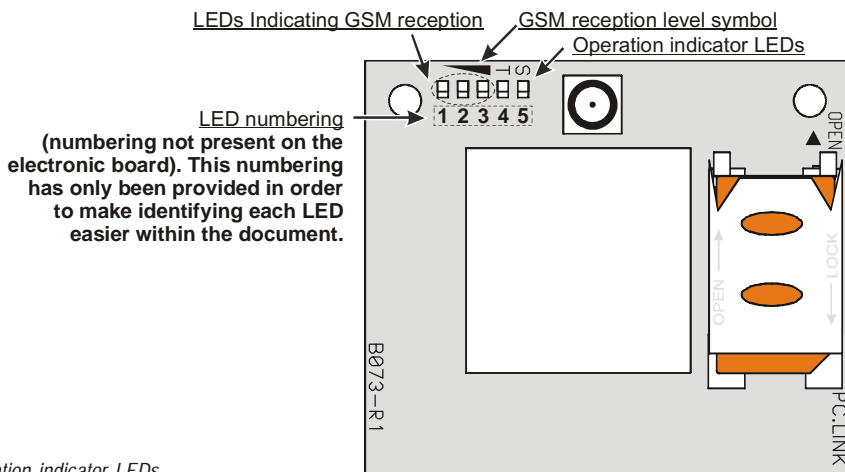

Fig. 4 - Operation indicator LEDs
There are 5 LEDs on the PCB (see Figure 4): three green LEDs (L1, L2 and L3), one yellow LED (L4) and one red LED (L5). These indicate the connection, transmission, malfunction conditions and, for the GS3125 series only, the Communicator status (see table 2).
**GREEN** — The three green LEDs (L1, L2 e L3) indicate the GSM signal strength and status (Table 2), as illustrated in Figure 4: **The first LED (L1)** near the fixing hole. If this LED is OFF, the GSM Network service is unavailable (**NO SERVICE**). If only this LED is ON, the GSM Network reception is weak but sufficient to manage all telephone communications. **The second LED (L2)**. When this LED is ON, the reception is good. This LED will switch ON only when the first GREEN LED is ON. **The third LED (L3)**. When this LED is ON, indicates excellent GSM signal strength; it only illuminates when the first and second LEDs are already ON.